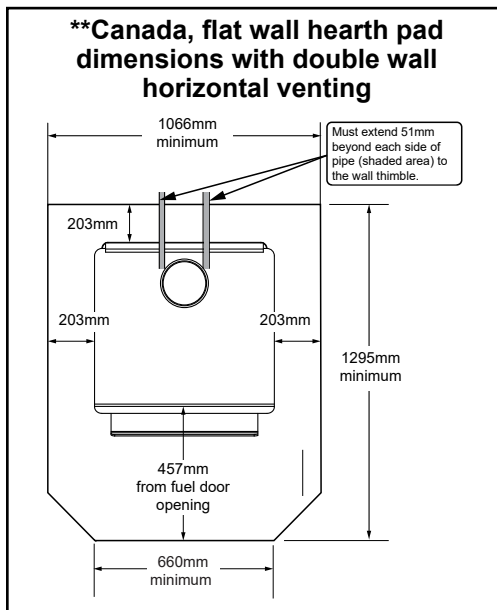

Figure 9.2 - **These dimensions will vary depending installation.
In Canada, similar floor protection must be provided 18 inches (457mm) in front and 8 inches (203mm) from the sides and rear of the appliance unless the hearth pad is placed against the wall (**Figure 9.2**). Then the clearance may be reduced using double wall pipe and the Clearance to Combustibles table listed on page 10.
***Exception:** Non-combustible floor protector must extend beneath the flue pipe when installed with horizontal venting and extend 2 inches (51mm) beyond each side (**See Figure 9.2**).